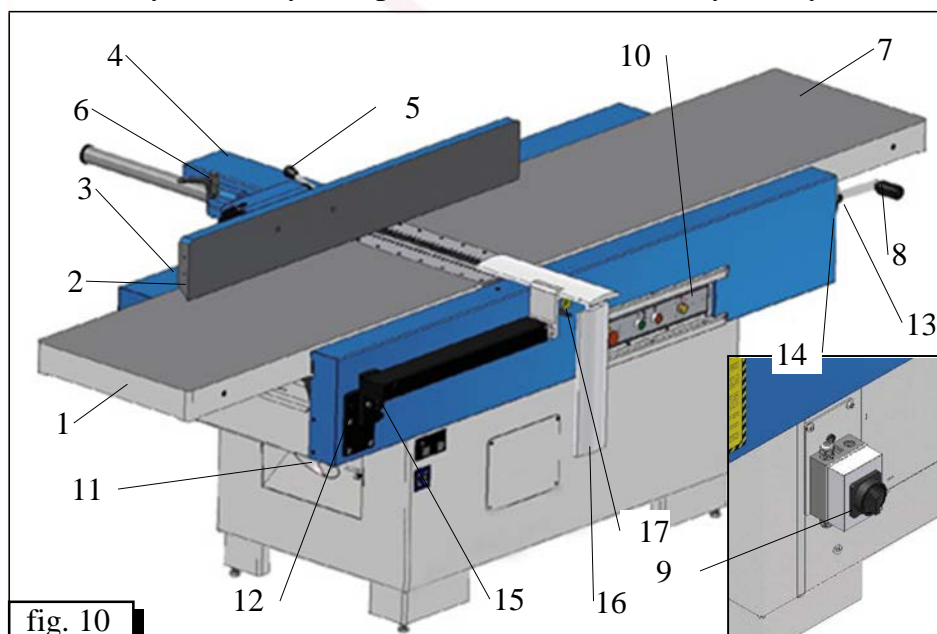

fig. 10
The smoothing planer is composed of the following main components /fig. 10/:
- ,. Cover the cutting shaft by the guard 16 (fig. 10)